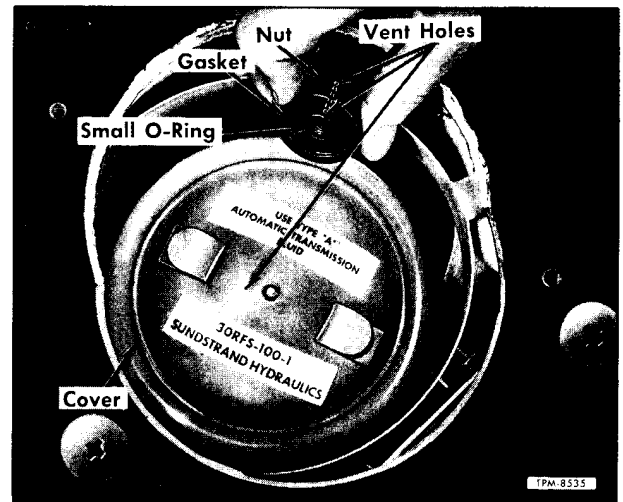

Figure 27—Vent Hole Locations in Reservoir Cover and Nut
3. Locate spring (7) over reservoir thru bolt, then install strainer screen (5). Secure screen with cotter pin (16). NOTE: Carefully press screen down in center to permit installation of cotter pin.
4. Place O-ring seal (4) in groove of cover (3), then position cover on housing.
5. Before installing cover nut (1) and nut gaskets (2 and 17), prod small diameter wire into vent holes in cover (3) and cover nut (1). See figure 27 which shows nut removed and vent holes exposed.
6. With gasket (2) located in groove of cover nut (1), install nut.